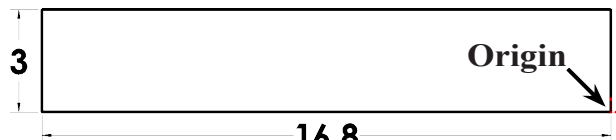

Fig. 2
- Step 4. Sketch a rectangle starting at the Origin , **Fig. 2**.
- Step 5. Click **Smart Dimension**  (S) on the Sketch toolbar.
- Step 6. Add dimensions, **Fig. 2**.